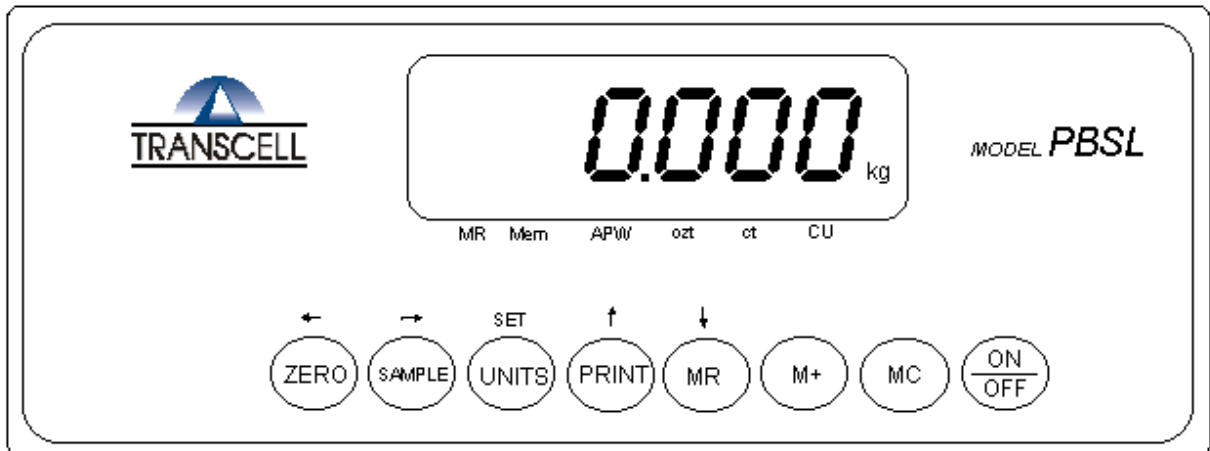

Figure 6-1: Calibration Mode Key Assignments
7. Use the four directional keys shown in Figure 6-1 to adjust the displayed value to the actual test weight value. Increase the flashing digit by pressing the PRINT key. Decrease the flashing digit by pressing the MR key. The position of the flashing digit may be changed by pressing the ZERO key or the SAMPLE key.